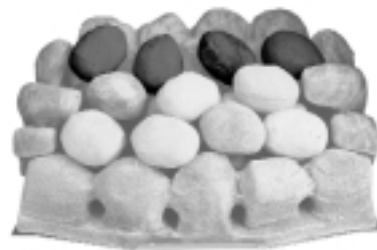

Fig. 34
7. Lay another row of four pebbles on the next row up, again making sure all the gaps are even (Fig. 34).